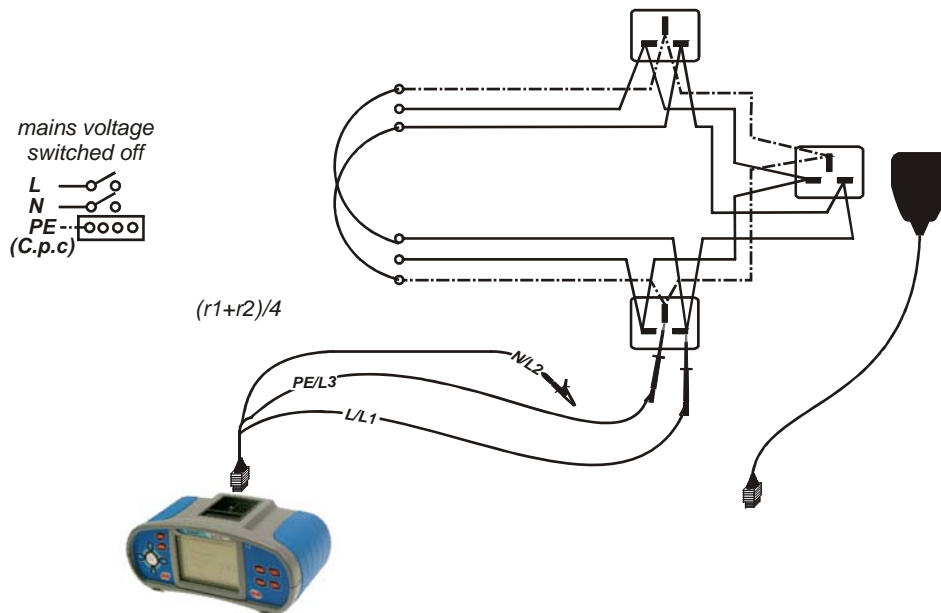

Figure 5.20: Verification of wall sockets of tested final ring circuit using universal or plug cable
- ❑ **Cross-connect** line and protective conductors of tested ring circuit (see *figure 5.20*).
- ❑ Press the **TEST** key for measurement of the first socket of tested ring final circuit (see *figure 5.20*).